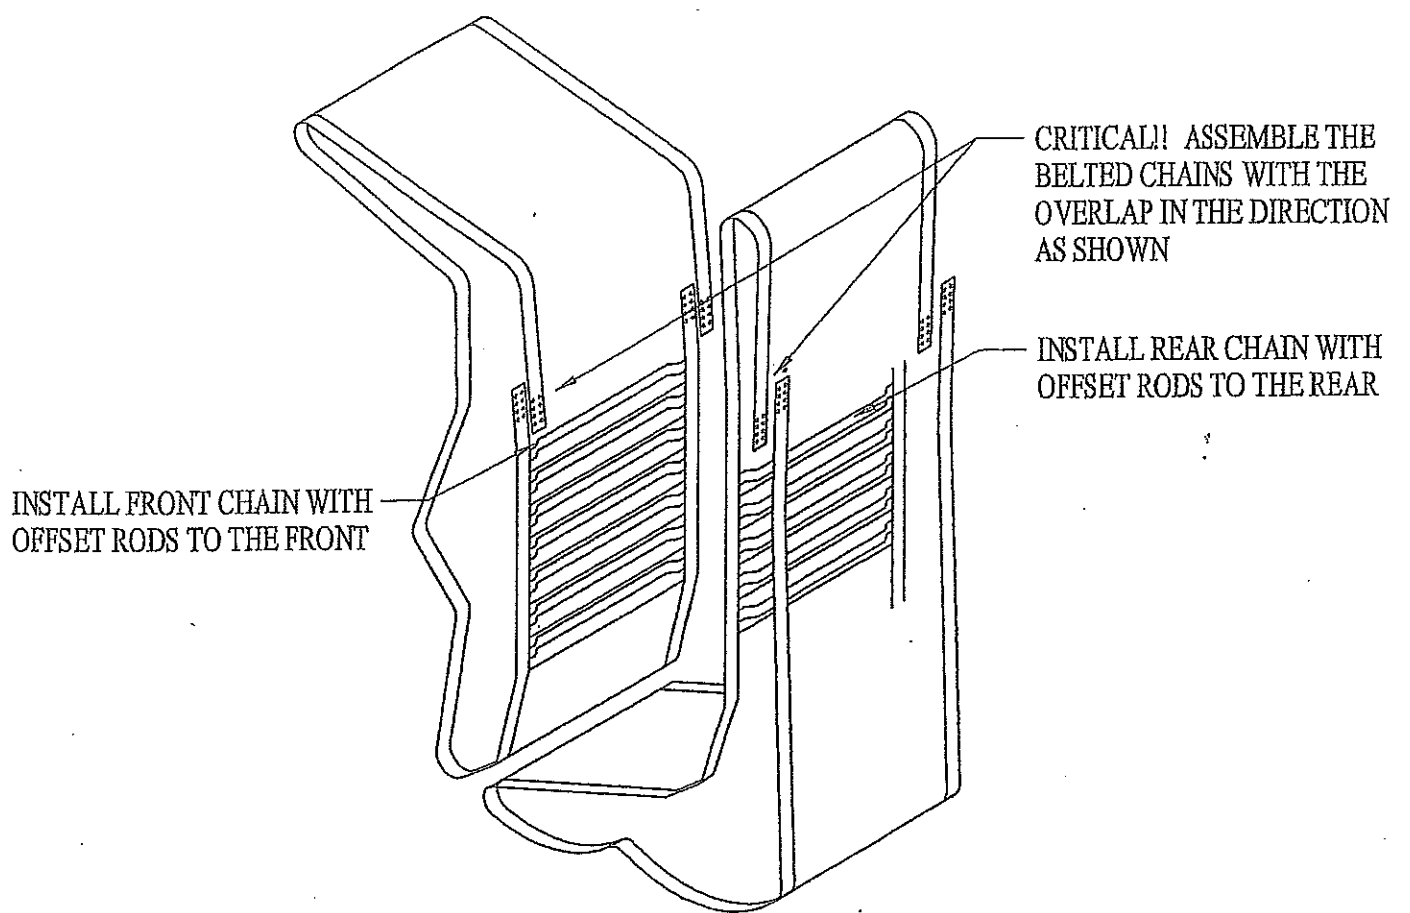

FIGURE 4
Step 7: Wrap the lower end of the rear belted chain around the rollers as shown in Figure #5, pg. 14, or the decal on the side elevator panel. Attach the ends of the belts along with the chain rods and backing clamps furnished, being sure that the overlap connection is in the direction illustrated in Figure 4. Tighten the lock nuts on the bolts until they are snug and secure. Be sure lock nuts are used with the bolts (Do Not Use Elastic Stop Nuts!).